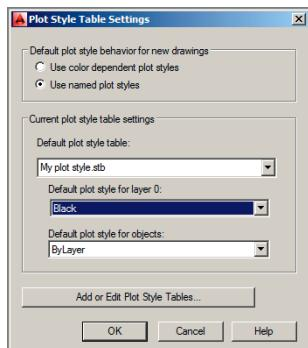

FIGURE 14.4 Configuring the default plot style behavior and settings for new drawings
2. Click the Plot Style Table Settings button in the lower right of the Options dialog box. Select the Use Named Plot Styles radio button in the Plot Style Table Settings dialog box that appears. Select **My plot style.stb** from the Default Plot Style Table drop-down menu. Select **Black** from the Default Plot Style For Layer 0 drop-down menu. Select **ByLayer** from the Default Plot Style For Objects drop-down menu if it is not already selected (see Figure 14.4). Click OK, and then click OK again to close both of the open dialog boxes.